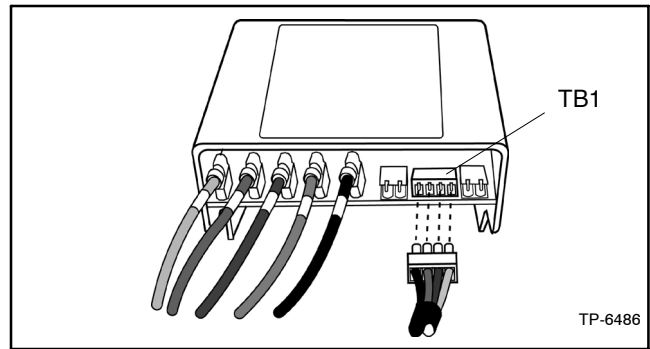

Figure 2-42 Communication Terminal TB1 on MPAC 550 Controller
2. Then install the green plugable connector at the other end of the cable into terminal TB1 on the MPAC 550 controller. See Figure 2-42.